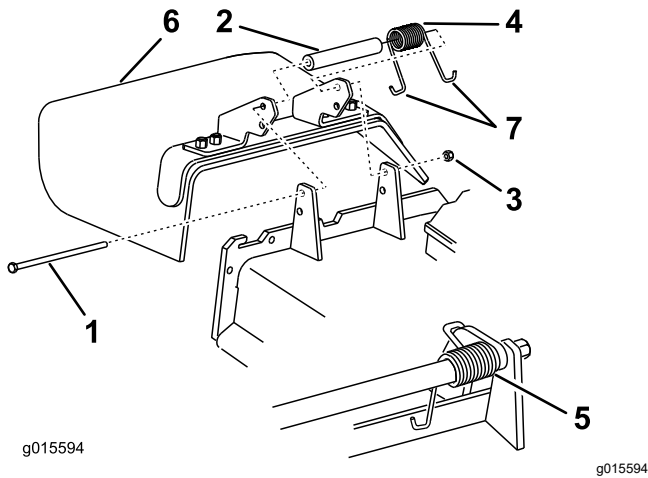

Figure 120
6. Place 1 J-hook end of the spring around the grass deflector (Figure 120).
1. Remove the locknut, bolt, spring, and spacer holding the deflector to the pivot brackets (Figure 120).
2. Remove the damaged or worn grass deflector (Figure 120).
Note: Make sure that 1 J-hook end of the spring is installed behind the deck edge before installing the bolt as shown in Figure 120.